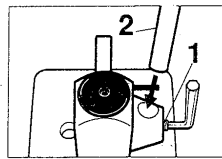

fig. 1
The Chain Breaker is supplied already assembled, except the lever (2). To mount this lever, release screw (1) (fig.1). Supplied wrench. Insert lever as shown in fig.4 then tighten screw (1).
head under the punch, then lower the lever step by step (2) (fig.1) till the rivet has come out. Do not force too much.